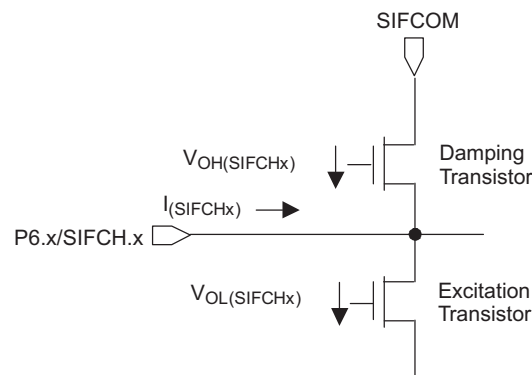

Figure 19. Voltage Drop Due to On-Resistance
(1) SIFCOM = 1.5V, supplied externally (see Figure 19)